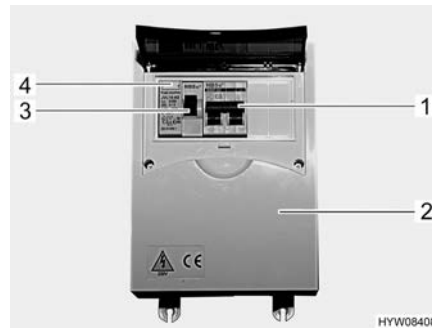

Fig. 155 230 V fuse box with safety cut-out and RCD (main switch)
- Switch off the RCD (main switch, Fig. 155,3) in the fuse box (Fig. 155,2).
- Switch on the RCD (main switch, Fig. 155,3) in the fuse box.
- When the vehicle is connected to the 230 V supply, press the test button (Fig. 155,4) of the RCD (Fig. 155,3) in the fuse box (Fig. 155,2). The RCD must trip.
- Switch the RCD (Fig. 155,3) back on.